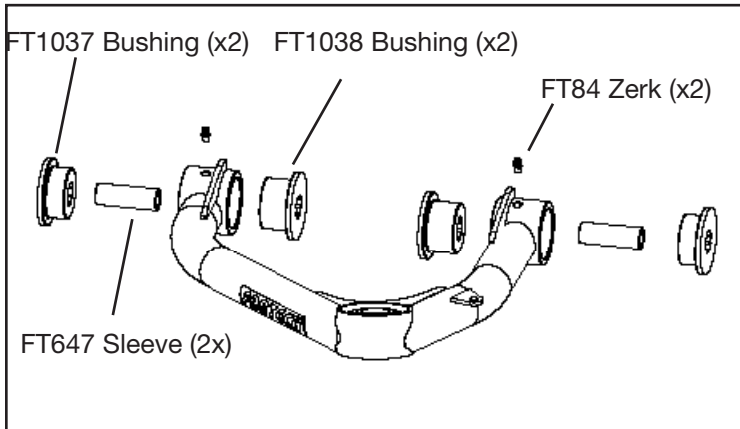

FIGURE 2 - STEP 5
5. Locate the new Fabtech control arms, two (FT1037) bushings, two (FT1038) bushings, four (FT57-1) washers, two (FT84) grease zerks, and two (FT196) sleeves. Install the components into the new control arms. **SEE FIGURE 2**